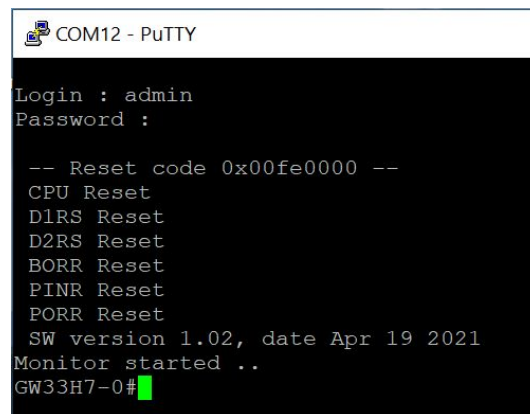

Figure 4: Open terminal window for module configuration via serial line
Click on „Open” button in „PuTTY” program and open the terminal window. After pressing of ”ENTER” key there will appear a request for login and (after entering login) password. Factory preset login/pasword couple is „*admin/admin*”, it is recommended to change it after installation. After login procedure there will appear a sequence with an information about last reset ended by system command line marked by ”LORA-GW-3440#” prompt, which announces that the module is ready to be configured (see figure 4).
- the command must be entered only when a prompt for command appears in front of the cursor mark (colored or flashing little square); the prompt is either „LORA-GW-3440#” or „mon” format (see figure 4);